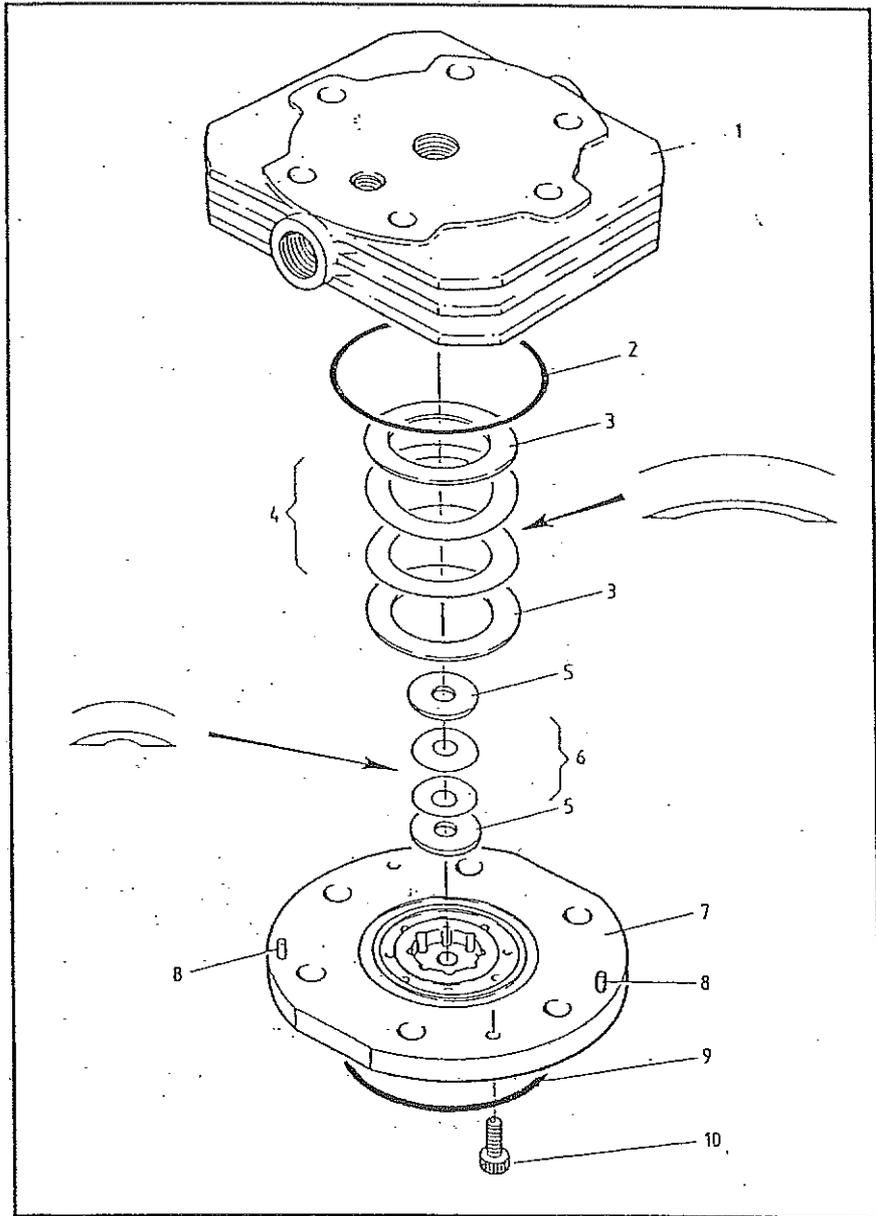

FIGURE 13-6 THIRD STAGE VALVE
## THIRD STAGE SUCTION AND DELIVERY VALVE/CYLINDER HEAD ASSEMBLY OVERHAUL (FIGURE 13-6)
Invert base (7) and fit plate (5) followed by springs (6) which should be arranged as shown in Figure 13-6. Fit suction plate (5).
Invert cylinder head (1), and fit plate (3), followed by springs (4) which should be arranged as shown in Figure 13-6. Fit delivery plate (3) and place new "O"-ring (2) into the cylinder head groove. Ensure the delivery plate (3) is centralized. With a small steel ruler, or similar thin-bladed implement, placed across base (5) to retain the suction and fit to the cylinder head. Correct location of the base is assured by the offset pins (8) and (8) which engage with corresponding holes in the cylinder head.